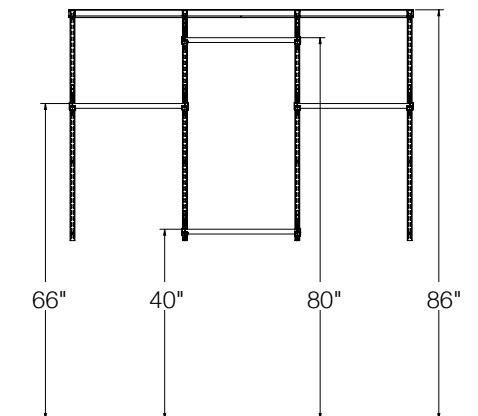

Figure 1
**STEP 1:** Measure 86" from the floor and make two marks on the wall with a pencil (**Figure 1**).
**STEP 3:** Install the hang rail into wall studs (the top of the hang rail at 86") using the provided screws and a level (**Figure 1**).
- c. Common closet pole heights (measuring from the floor to the top of the closet pole): 66" for a single pole configuration; 40" and 80" for a double pole configuration (**Figure 1**).